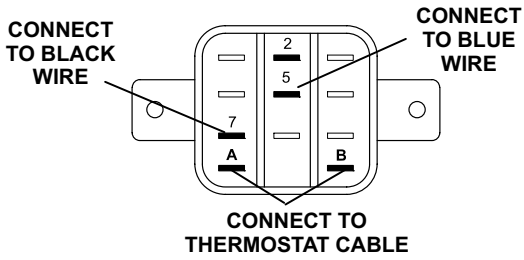

Figure 2
- 6 - Disconnect the blue wire from the on/off switch. Connect the blue wire to terminal 5 on the 24V AC coil relay. See figures 2 and 3.
- 7 - Connect one end of the provided black wire to terminal 7 on the 24V AC coil relay. Connect the other end of the black wire to the center prong of the on/off switch. See figures 2 and 3.